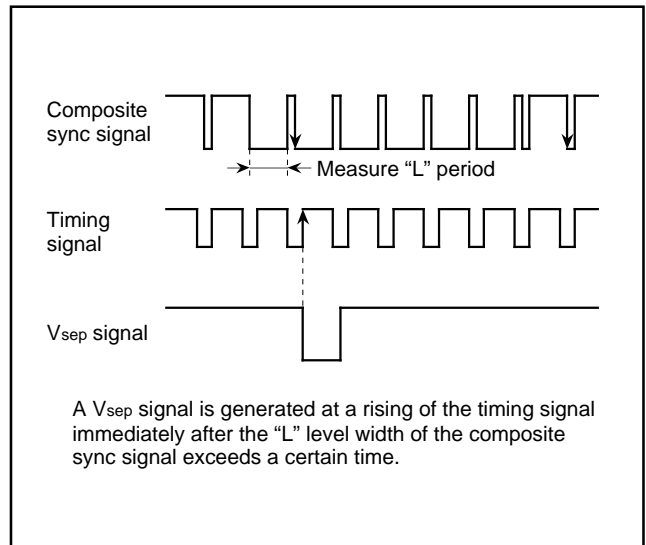

Fig. 26. Vsep Generating Timing (method 2)
- Method 2 The "L" level width of the composite sync signal is measured. If this width exceeds a certain time, it is detected whether a falling of the composite sync signal exists or not in the "L" level period of the timing signal immediately after this "L" level. If a falling exists, a V_{sep} signal is generated in synchronization with the rising of the timing signal (refer to Figure 26).
Figure 26 shows a V_{sep} generating timing. The timing signal shown in the figure is generated from the reference clock which the timing generating circuit outputs.